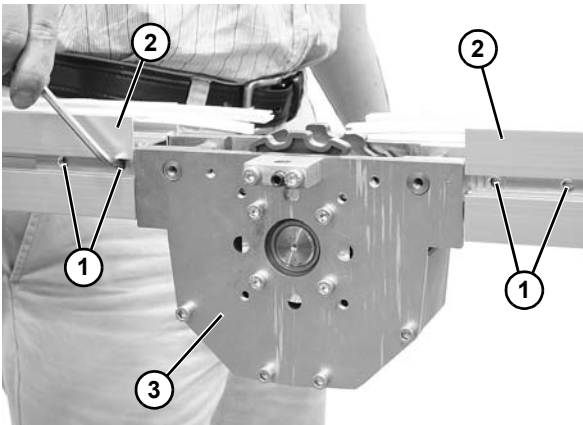

Figure 142
- Loosen set screws (Figure 142, item 1) on both sides of conveyor.
- Separate conveyor halves (Figure 142, item 2) and remove drive assembly (Figure 142, item 3).